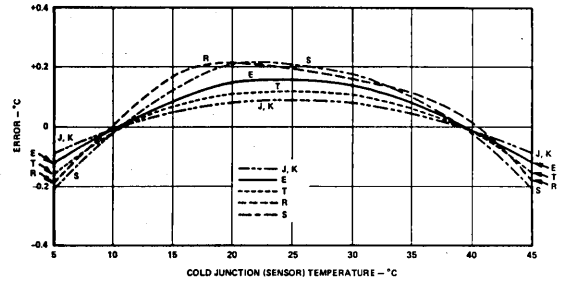

Figure 3. Error Due to Thermocouple Nonlinearity
**Curvature Error:** The voltage output of thermocouples is a nonlinear function of temperature, so the reference junction output which is compensated by the 2B56 is also nonlinear. The correction signal generated by the 2B56, however, is approximately linear. The 2B56 is adjusted internally to give the best fit of its linear correction to the nonlinear reference junction output over the  $+5^\circ C$  to  $+45^\circ C$  range. The remaining error, which is included in the specifications given on page 2, is shown for each thermocouple type in Figure 3. Note that as a result of thermocouple nonlinearity the error at  $+25^\circ C$  will not be zero after calibration is done. The error for a particular thermocouple type could be adjusted to zero at  $+25^\circ C$  by appropriate adjustment of the thermocouple amplifier offset, but the improvement will be at the expense of increased errors over the  $+5^\circ C$  to  $+45^\circ C$  range.